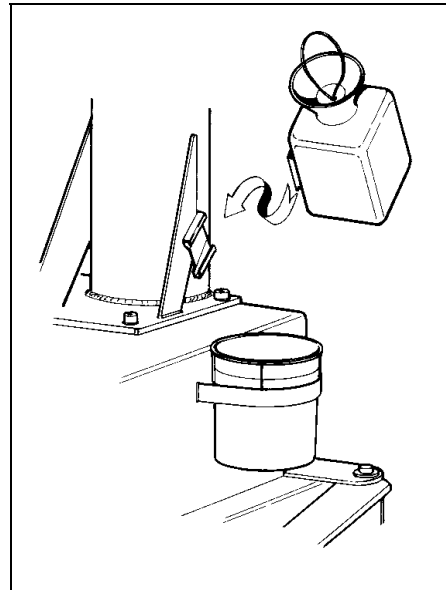

Fig.13
F. Mount the lube pail as shown in Fig.13